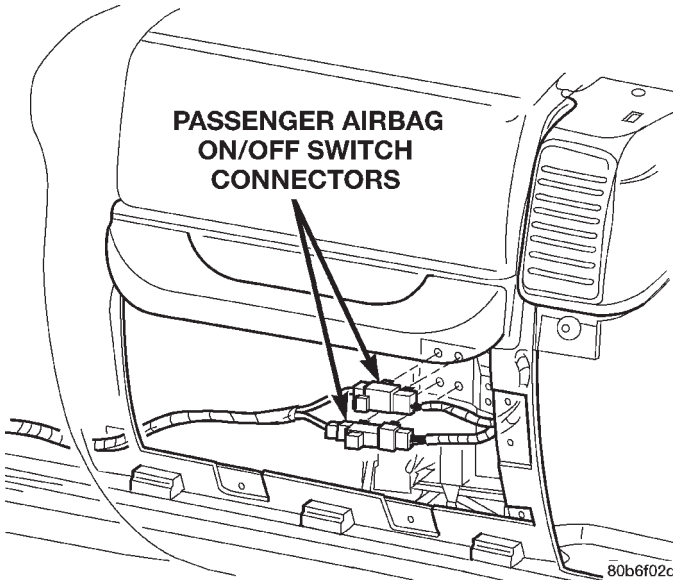

Fig. 15 Passenger Side Airbag On/Off Switch Wire Harness Connectors
(3) Reach through the glove box opening to access and disconnect the two passenger side airbag on/off switch wire harness connectors from the instrument panel wire harness. These connectors are retained on a bracket located on the outboard glove box opening reinforcement (Fig. 15).